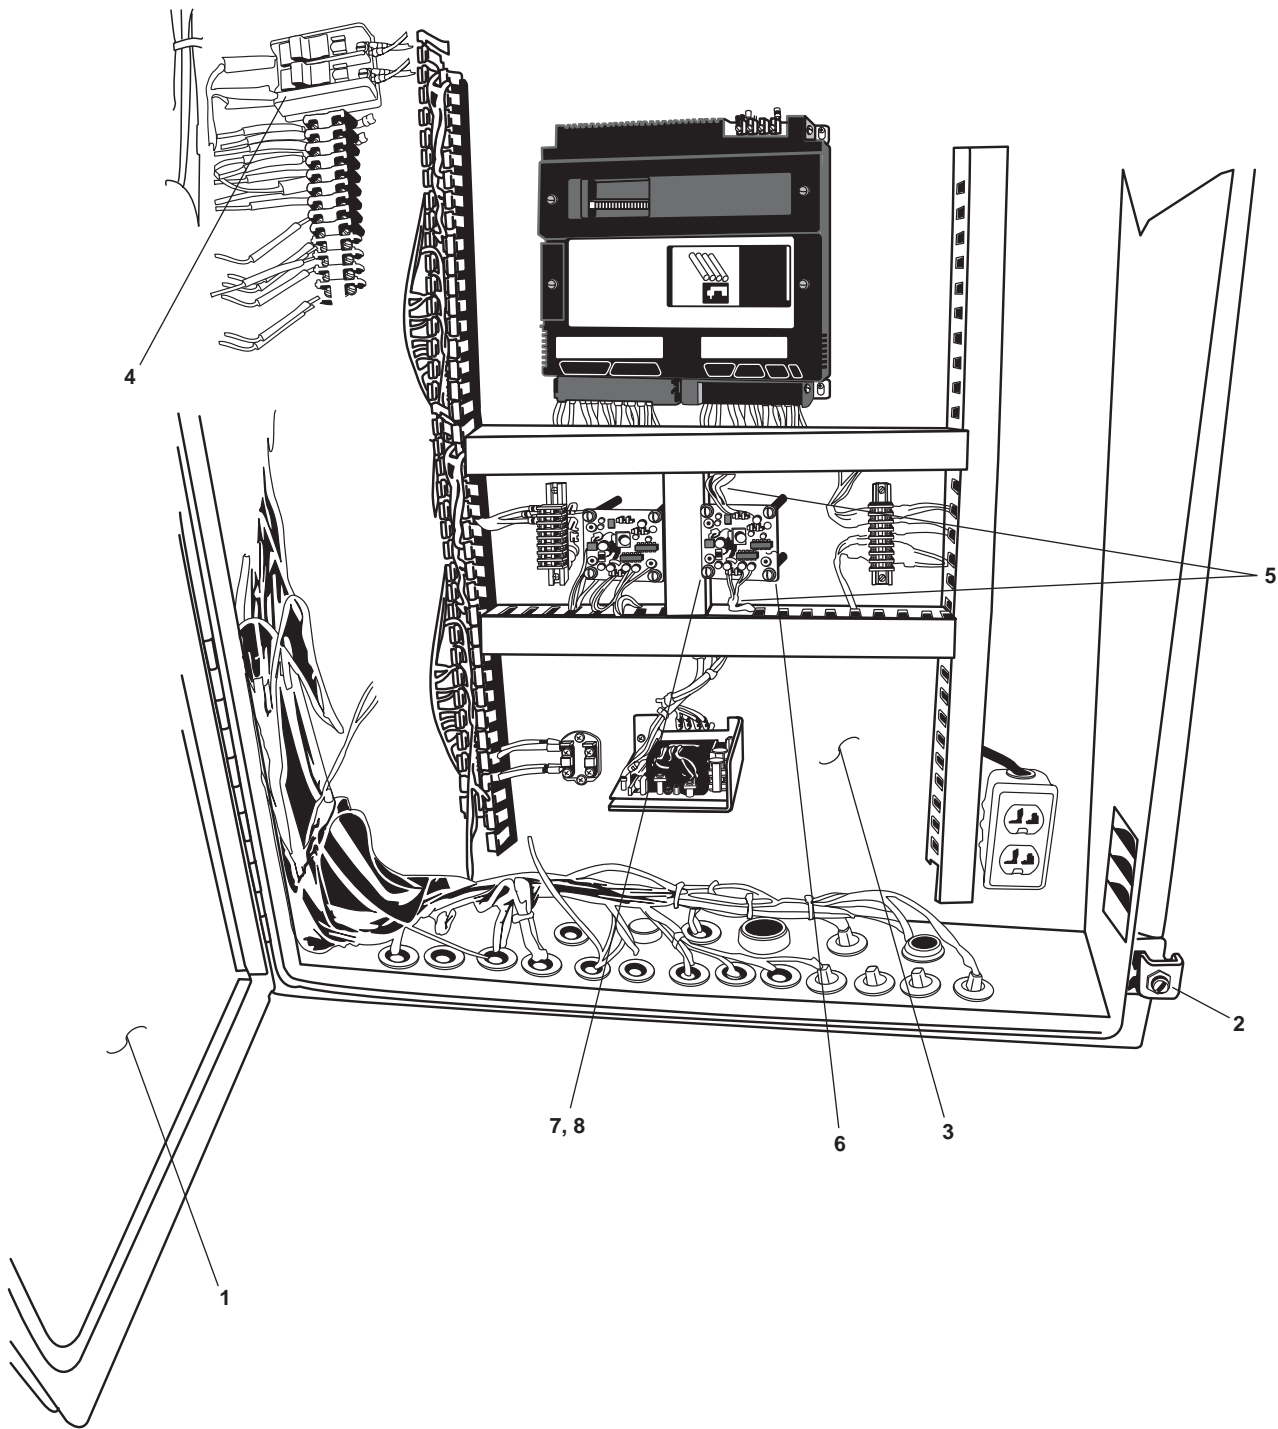

Figure 1. Towing Machine Control Panel (Vestibule)
1. Open the control panel door (figure 1, item 1) by loosening the two locking clamps (figure 1, item 2).
2. Using a multimeter, check the control panel (figure 1, item 3) for voltage at the fuse block (figure 1, item 4). If voltage is present, secure the proper circuit breaker and ensure that it is locked out and tagged out (FM 55-502) and then continue with the procedure. If there is no voltage present, continue with the procedure.
3. Label and disconnect the wiring (figure 1, item 5) from the signal conditioner (figure 1, item 6).
4. Remove the four screws (figure 1, item 7) and the four washers (figure 1, item 8) from the signal conditioner (figure 1, item 6).
5. Remove the signal conditioner (figure 1, item 6) from the control panel (figure 1, item 3)
1. Place the signal conditioner (figure 1, item 6) in the control panel (figure 1, item 3) and secure it with the four screws (figure 1, item 7) and the four washers (figure 1, item 8).
2. Connect the wiring (figure 1, item 5) to the signal conditioner (figure 1, item 6) using the labels from step 3 of Removal as a guide. Remove the labels.
3. Close the control panel door (figure 1, item 1) and tighten the two locking clamps (figure 1, item 2).